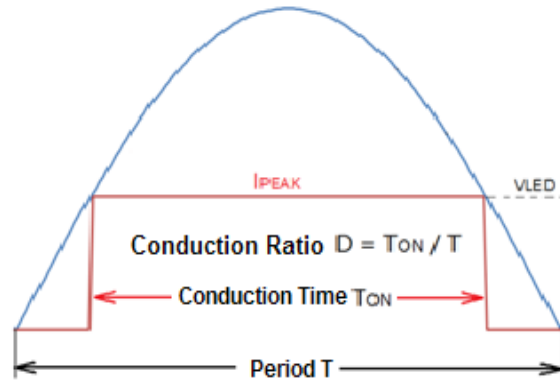

Fig.2 LED conduction procedure
Refer to Fig.2, MT7603 automatically turns on the LED string following the input sine wave. When the input voltage rises and reaches to the LED conducting voltage V_{LED} , The LED string is turned on. Since then, the input voltage continues rising, the LED string voltage keeps stable, the external MOSFET bears the superfluous voltage drop. If the input voltage drops, the procedure is reversed. So high LED voltage makes the LED availability to be low, and low LED voltage will reduce the system efficiency. It is recommended to choose about 120V high-voltage LED string in 120VAC applications; And to choose about 250V high-voltage LED
Fig.2 shows the LED conduction procedure, MT7603 actually controls the LED peak current during the conduction-time.
- 1) No large electrolytic capacitor is needed after the rectifier bridge, as shown in Fig.2. At the valley, the input voltage is lower than LED string forward voltage, the output current is zero. When the input voltage is higher than the LED string forward voltage, the output current is I_{PEAK} . So, in the real application, the LED string current is discontinuous, and the I_{LED} is the average LED string current.